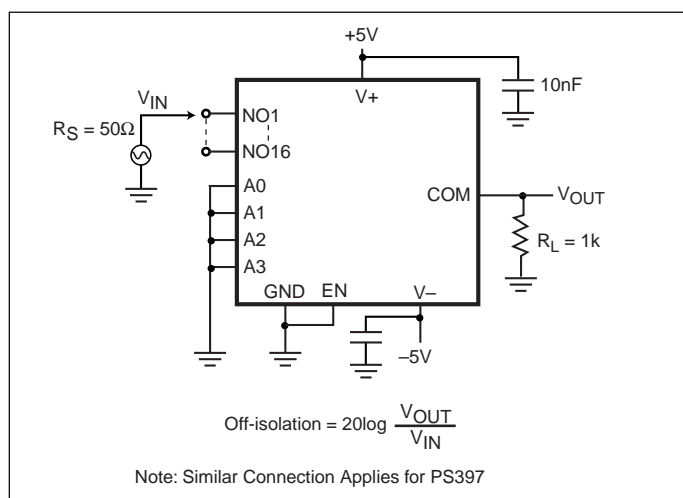

Figure 6. Off-Isolation (V_{ISO})
| Charge Injection ⁽³⁾ | V _{CTE} | C _L = 1.0nF, V _{GEN} = 0V, R _{GEN} = 0 Ohm Figure 6 | T _A = +25°C | | 1 | 5 | pC |
6. See Figure 6. Off isolation = 20log₁₀ V_{COM}/V_{NC} or V_{NO}, V_{COM} = output, V_{NC} or V_{NO} = input to off switch